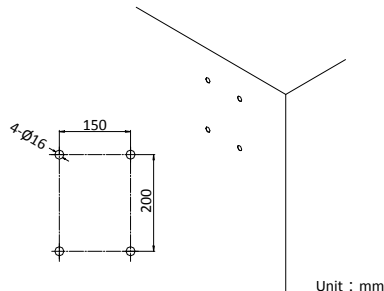

Figure 2-2 Drill Screw Holes
- 1) Drill four $\text{Ø}16$ screw holes where you want to install the positioning system according to the holes on the bracket as shown in Figure 2-2.